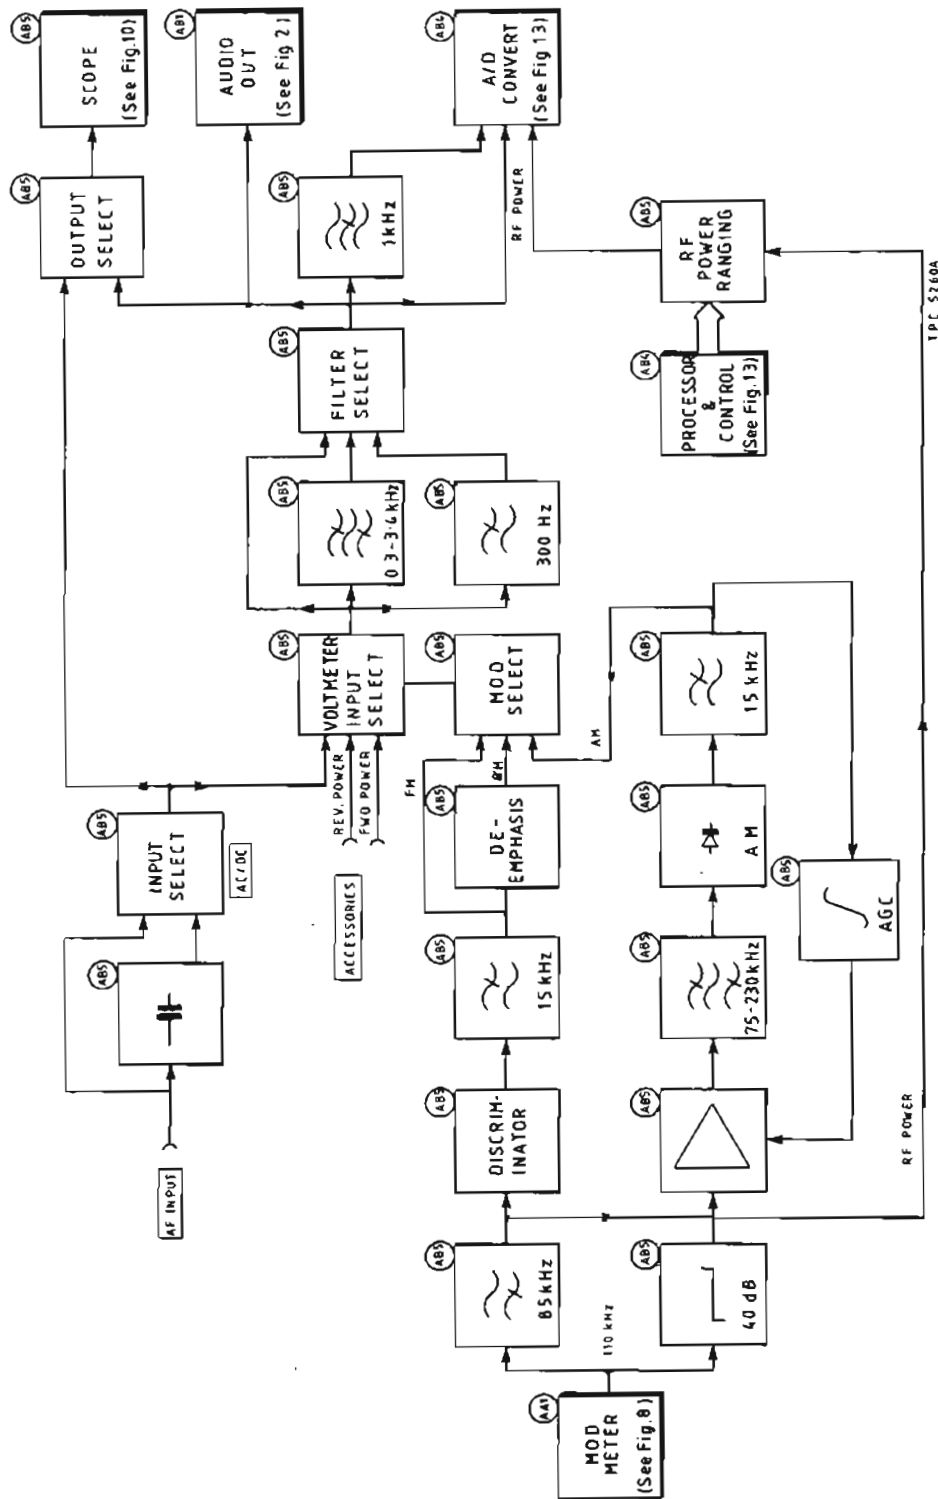

Fig. 9 Block diagram of demodulator, voltmeter and power meter (showing main functions of boards)
81. The input from the modulation meter on AA1 is sent by AB5 on two parallel paths (see Fig. 9). One, the a.m. path is via a 40 dB attenuator, an a.g.c. controlled amplifier and a band-pass filter to an a.m. detector. The second, f.m. path is via a high-pass filter to the f.m. discriminator. Both paths feed through 15 kHz low-pass filters, with de-emphasis applied on the f.m. path for ϕ .m. The modulation selector connects the three inputs to the voltmeter input selector. This also connects to the optional r.f. directional power head at the ACCESSORIES socket and to the AF INPUT socket for a.f. or a modulated d.c. as selected by the AC/DC key. Switched filters implement the 15 kHz and 300 Hz low-pass and 0.3 to 3.4 kHz high-pass filtering. Output for monitoring purposes is taken to the audio amplifier on AB1. For voltmeter measurements, the signal is connected to an A-D converter either directly or via a SINAD filter. The r.f. power ranging circuit, operating under processor control, is also connected to the ADC. The output selector connects either the output from the filters or the a.f. input for feeding to the a.f. counter on AB4 and to the oscilloscope on AB2.